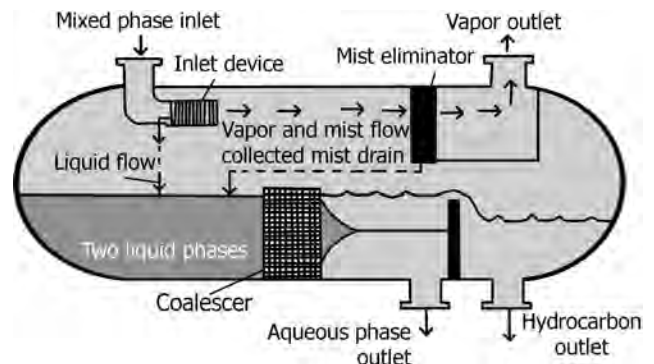

FIGURE 16.44 Three-phase horizontal coalescer.
- Figure 16.44 shows a typical three-phase horizontal coalescer.